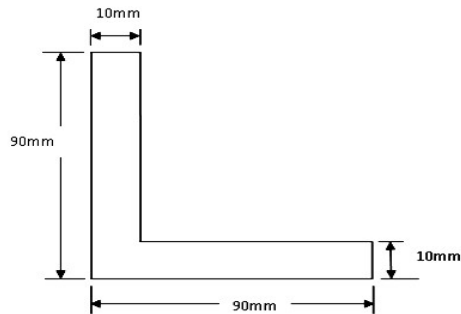

Fig. 5
4. (a) Determine the centroidal principal moment of inertia of the equal angle section 90 × 90 × 10 mm as shown in fig. 5.